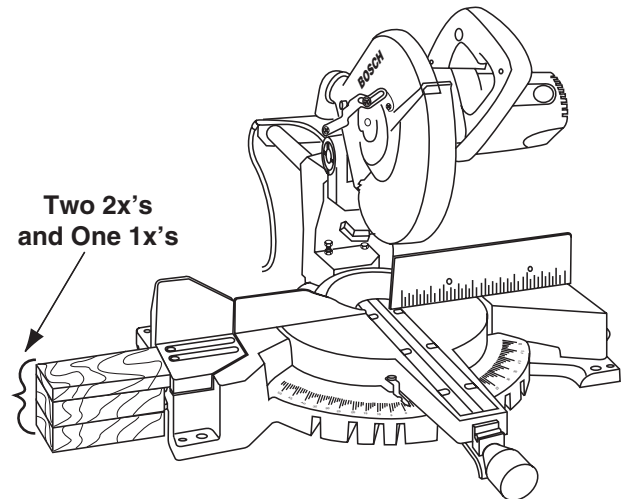

Figure 21. Block Support
**Blocks** - Long pieces need extra support. The base height (3-3/4") is designed to match the standard lumber of two 2x's and one 1x. Boards of these thicknesses can be used to create auxiliary support extensions for long workpieces (Figure 21).